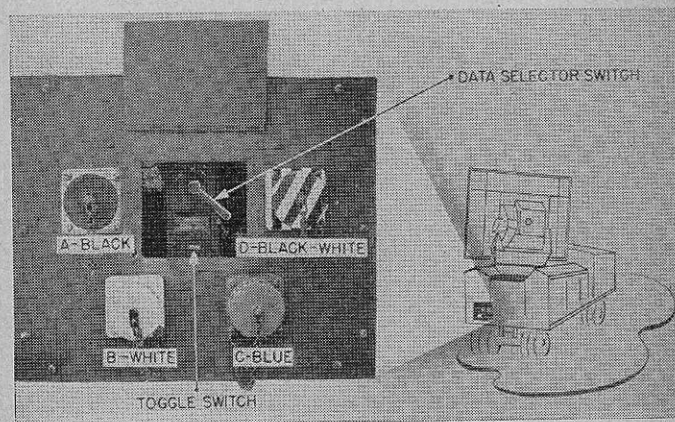
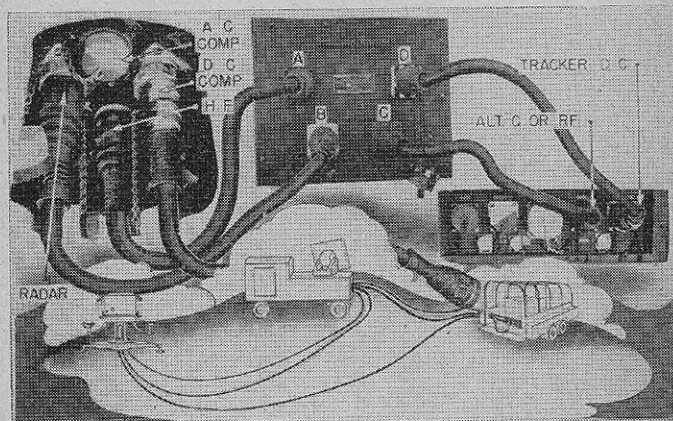
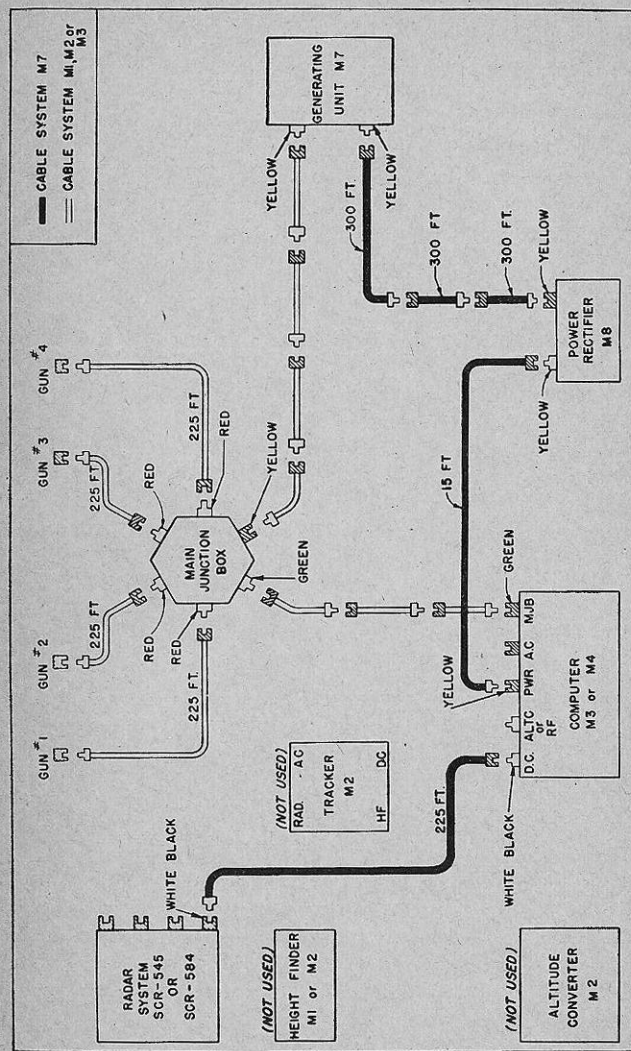

FIGURE 31.—Data junction box.
FIGURE 33.—Cabling with director M9. (This diagram does not show power cable connections.)
FIGURE 35.—Method II. (Cabling with director M9.)
d. Data supply.—The data provided by the SCR-545-A terminate in all their forms at a DATA JUNCTION BOX at the rear of the trailer (fig. 31). All data cables must be provided by the director, none is carried with the SCR-545-A.
The four data receptacles accommodate standard 19-conductor plugs on a 20-conductor cable. The DATA JUNCTION BOX includes two *two-position* switches. Figure 31 shows
c. *With director M9.*—(1) Figure 33 shows the recommended cabling set-up for the SCR-545-A with the director M9. The
indicated in the figure. This cable is plugged into the "DC COMP" (black-white) receptacle at the tracker and the other end is left loose beside the "DC" (black-white) receptacle at the computer. With this cabling arrangement, the director may be used easily for either optical or radar tracking. For radar tracking, the cabling is left as shown. For optical tracking, the loose cable is plugged into the "DC" (black-white) receptacle at the computer instead of the D cable from the radar which is shown plugged in in the figure. When using either of these setups the DATA SELECTOR SWITCH (fig. 31) on the DATA JUNCTION BOX must be set at M9 and the TOGGLE SWITCH (fig. 31) at REMOTE. The toggle switch on the base of the tracker of the director may be in either the HF or RADAR position for either set-up.
(2) It is possible to receive complete data at the director without setting up and connecting the tracker. This would be accomplished by merely connecting cable "D" (black-white) from the DATA JUNCTION BOX to the DC (black-white) receptacle on the computer (fig. 35) setting the DATA SELECTOR SWITCH (fig. 31) at M9 and the TOGGLE SWITCH (fig. 31) at LOCAL. Under normal conditions, however, the complete cabling shown in figure 33 is used.